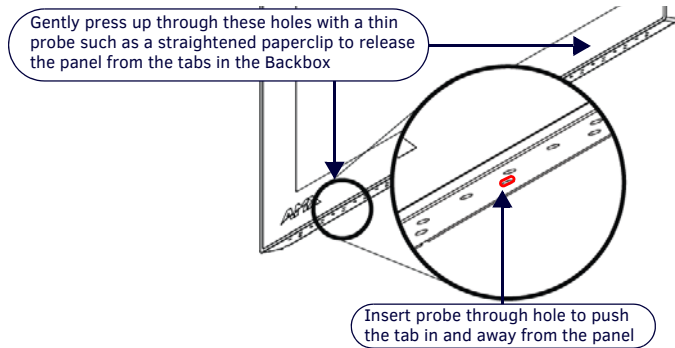

FIG. 7 MSD-701-L/BACKBOX ASSEMBLY
- With a straightened paper-clip, carefully press straight into the access holes indicated in FIG. 7, to disconnect the two bottom latches.